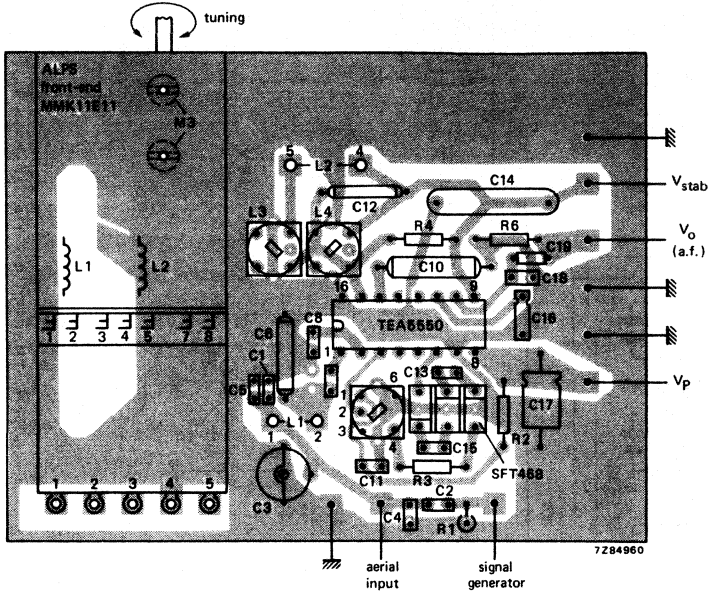

Fig. 5 Printed-circuit board component side, showing component layout. For circuit diagram see Fig. 4.
Fig. 4 Typical application circuit diagram for a single-tuned AM channel in car radio receivers using the TEA5550; S is AM/FM switch; for printed-circuit board see Fig. 5 and 6.
- Coil data: L1, L2 = tuning coils, ALPS unit MMK IIE11 (for coil connections see Fig. 5)